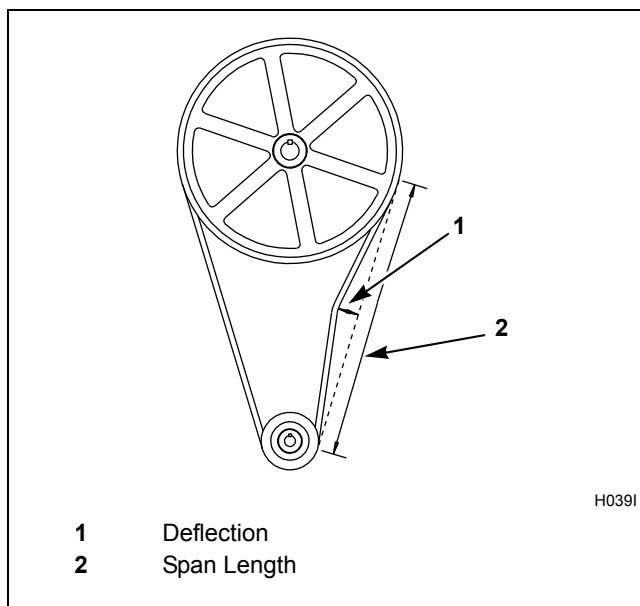

Figure 8
d. For **F** and variable-speed models only, verify that V-belts are properly tensioned by applying a set force to the belts and measuring the deflection to determine the belt tension. Refer to *Table 2* for the acceptable belt's tension ranges. Belt tension measurements should be taken as close to the center of the belt span as possible. Refer to *Figure 8*.